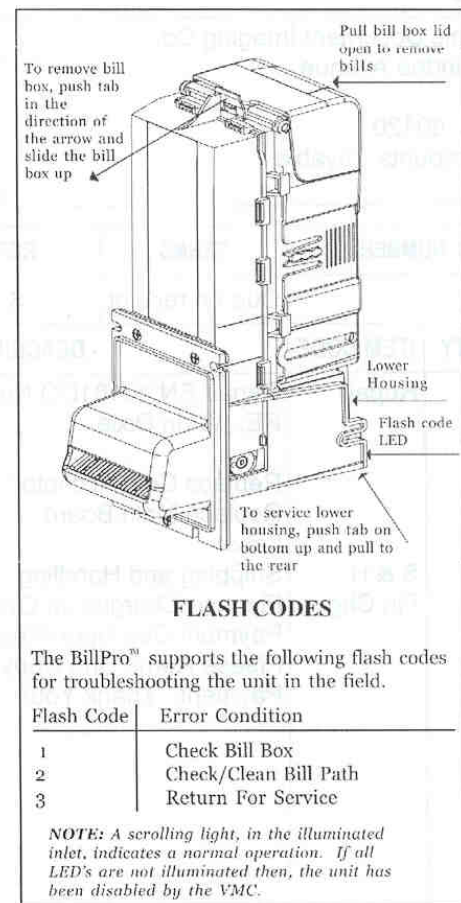

Figure 2
- Accepted bills may be removed by releasing the bill box lid exposing the bills or by removing the bill box from the bill acceptor (See Figure 2)
## Clearing Jams & Cleaning (See Figure 2)